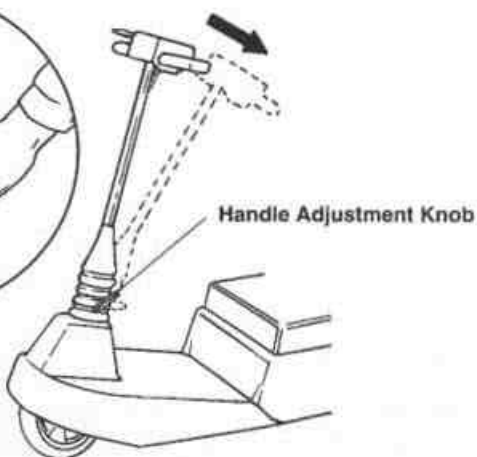

Figure 1A
**Oval Handle:** To adjust the angle of the handle, loosen the lower knob to separate the meshed teeth. Move the handle into the desired position and tighten the knob (Figure 1A).